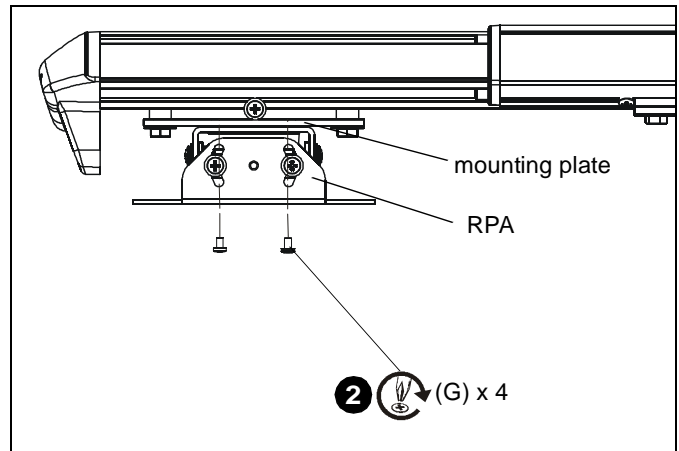

Figure 18
2. Install four 1/4-20 x 3/8" Phillips pan machine screws (G) through RPA holes and into projector mounting plate. (See Figure 18)